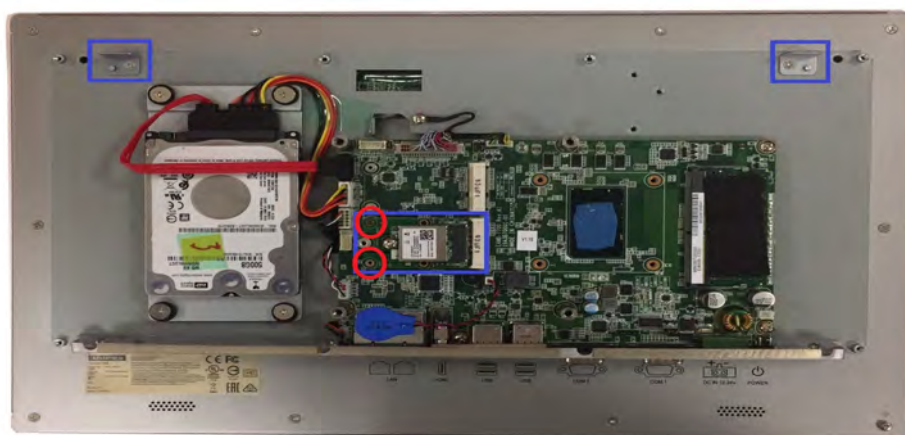

Figure 2.13 Installing the wireless LAN card
1. Insert the full-size mini PCIe card into the socket. Secure the card in place using two screws provided in the accessory box. Next, replace the original bracket with the holed antenna bracket provided in the accessory box (Figure 2.13).
Note! If a half-size PCIe is used, then use the hexagonal screws provided in the accessory box. Screws in red circles should be tightened, See Fig 2.13